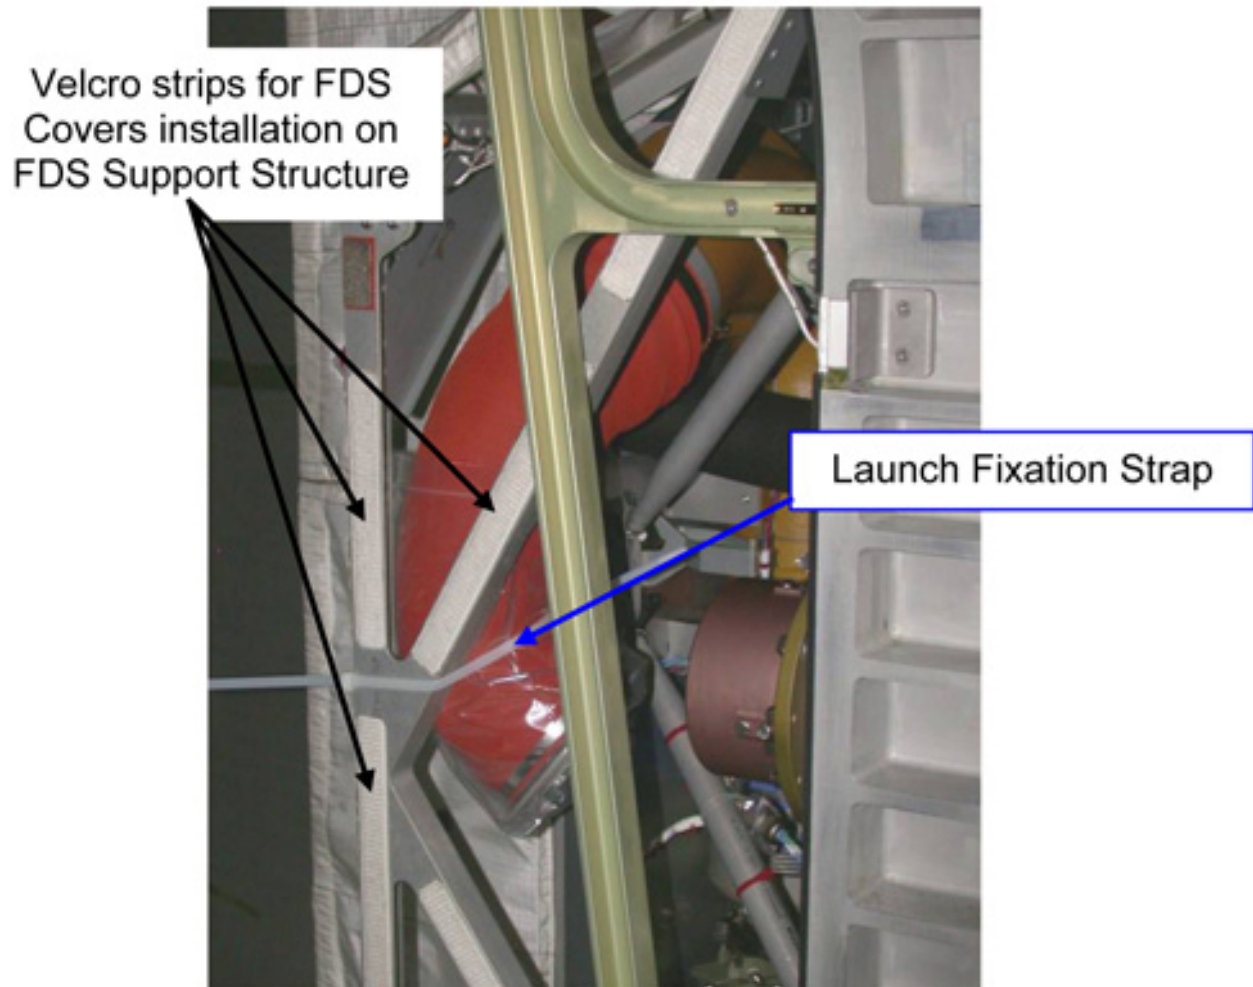

Figure 11. IMV Duct Launch Fixation Straps
Refer to Figure 11.
1. The FDS Covers are installed on the FDS support structure by means of "structure to blanket" and "blanket to blanket" Velcro strips. Refer to Figure 11.
Refer to Figures 11 and 14.